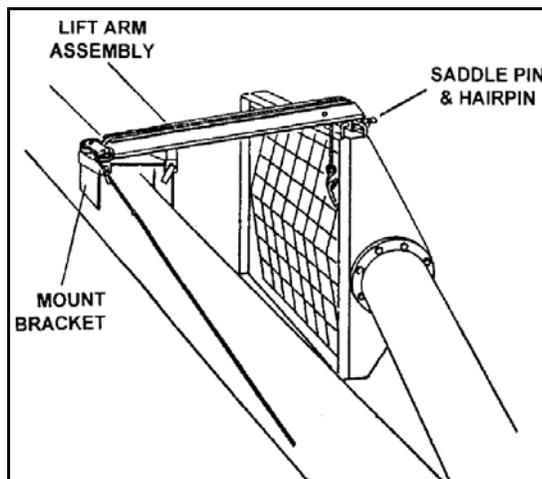

Figure 3.30
1. Choose either the right or left side; secure hopper lift arm assembly to the mount bracket on top of the lower auger tube with 2 saddle pins and hairpins, see Figure 3.30.